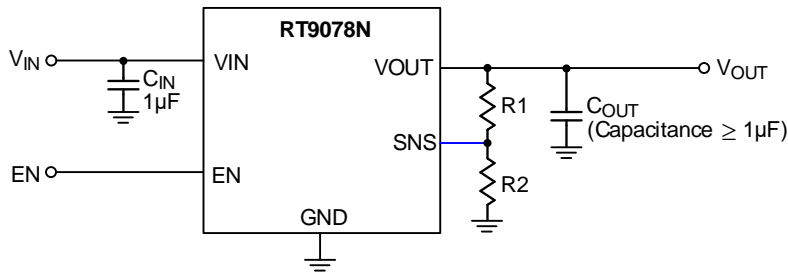

Figure 3. Adjustable Output Voltage Application Circuit
Due to the small input current at the SNS pin, the RT9078N with the SNS pin can function as an adjustable output voltage LDO. Figure 3 illustrates the connections for the adjustable output voltage application. The resistor divider from VOUT to SNS determines the output voltage when in regulation. The voltage on the SNS pin sets the output voltage and is determined by the values of R1 and R2. The adjustable output voltage is calculated using the formula provided in Equation (1):